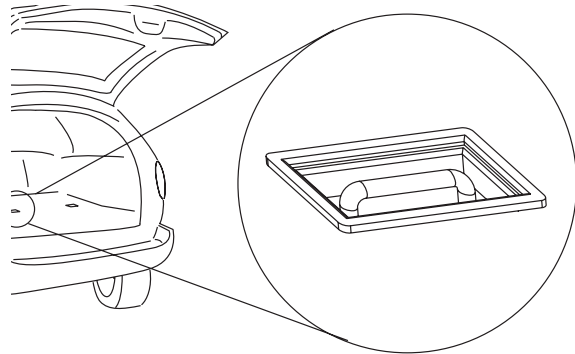

Figure 4-9
3. Examine the Floor for Additional Seat Attachment Points. These must be recessed into the floor. *See Figure 4-9.*